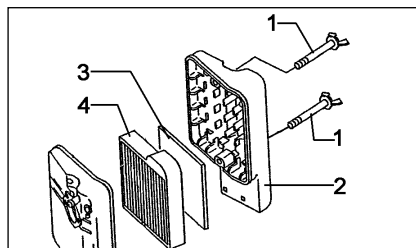

Fig.26
- Remove foam-type filter and paper filter (Fig. 26/3 and 4) and proceed to dry cleaning or replace if required.